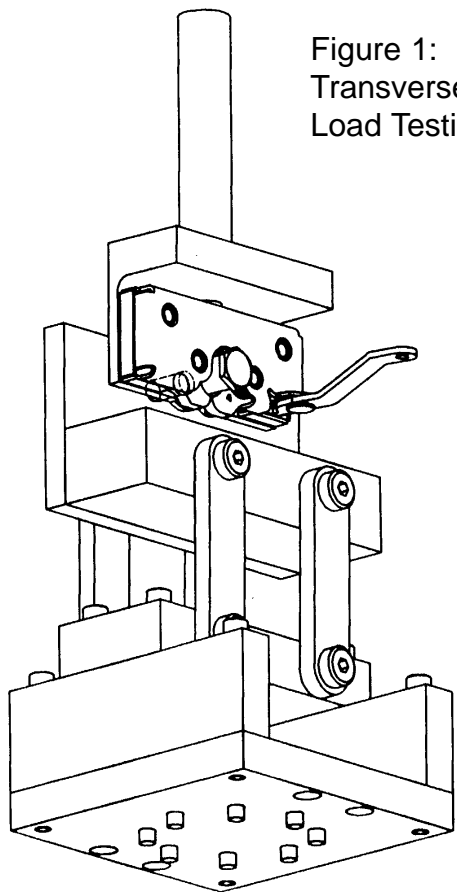

Figure 1:
For side hinged doors, EEC specifies two different static loading capacities. Loading capacity requirements differ for transverse and longitudinal loading. See Figure 1 and 2 to examine how transverse and longitudinal loads are applied to the door latches and striker bolts.
Figure 1 and 2 illustrates how TriMark performs transverse and longitudinal testing to TriMark 50-100 Two-Rotor Latch. Testing is very similar for other rotary latch product lines, including 50-200/250 Slimline Rotary Latch, 50-400 Floating Striker Single Rotor Latch and 50-700 12mm Single Rotor Latch.
- Transverse loading requirements are 8,900 Newtons (2,000 pounds) when latched fully in primary state of latch and 4,450 Newtons (1,000 pounds) when latched in secondary state of latch. (Figure 1)